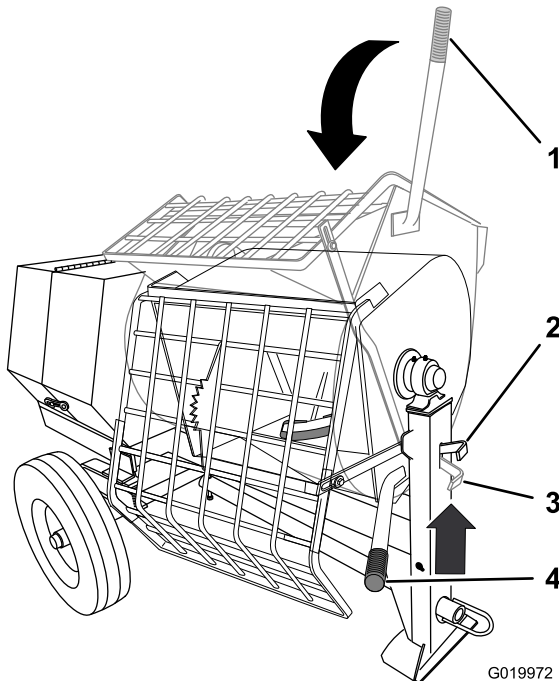

Figure 39
- Grasp the dump handle with your left hand (Figure 39).
- Rotate the dump handle **clockwise** until the drum latch locks the drum in the upright position (Figure 39).
- Lift the handle of the drum latch (Figure 39).
- With both hands on the dump handle, rotate it counterclockwise to discharge the contents of the drum (Figure 39).